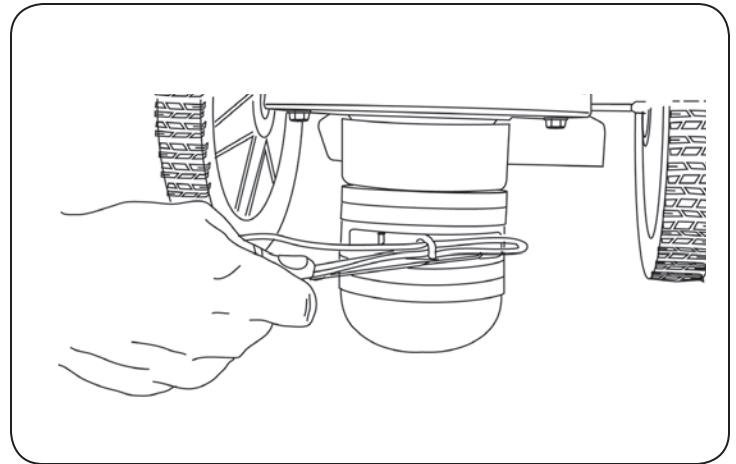

Figure 5
3. Pull the cord under the loop and push the loop up into the line plate groove above them (see Figure 5) and then pull the cord ends tight.